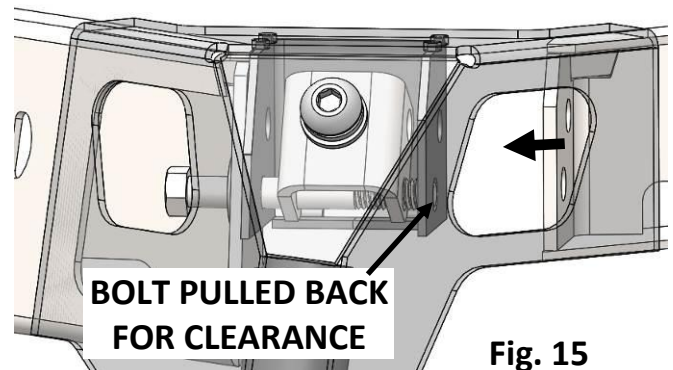

Fig. 15
- a. Remove the nuts from the bolts temporarily holding the side rails to the rear legs and remove the bolt JUST enough to provide clearance to position the rear rail. **(Fig. 15)** MAKE SURE THAT BOTH SIDE RAILS ARE SUPPORTED DURING THIS PROCESS! IF ANY RAIL COMES LOOSE FROM THE TOP OF THE LEG AND FALLS, DAMAGE TO THE RACK AND/OR THE VEHICLE MAY OCCUR!!!